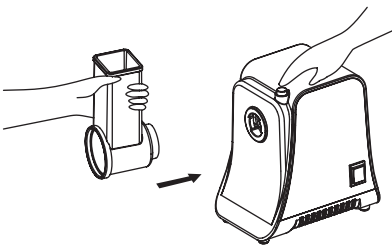

Figure 14.
2. Press the lock button and hold the vegetable shredding head and insert it into the inlet at an angle (fig. 14).